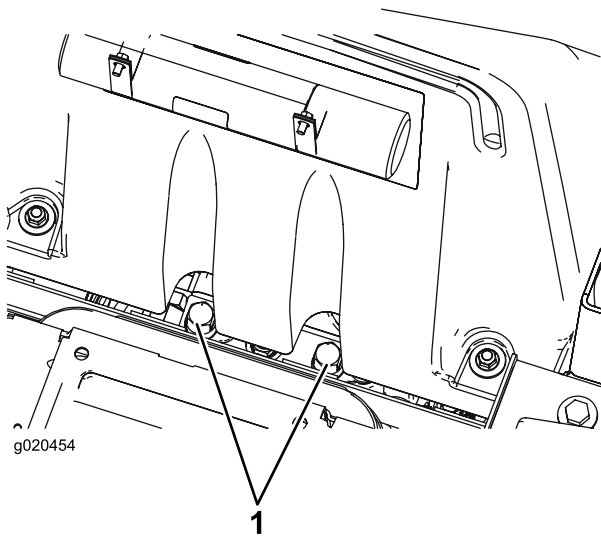

Figure 56
1. Raise the seat. The bypass valves are located below the front of the fuel tank (Figure 56).